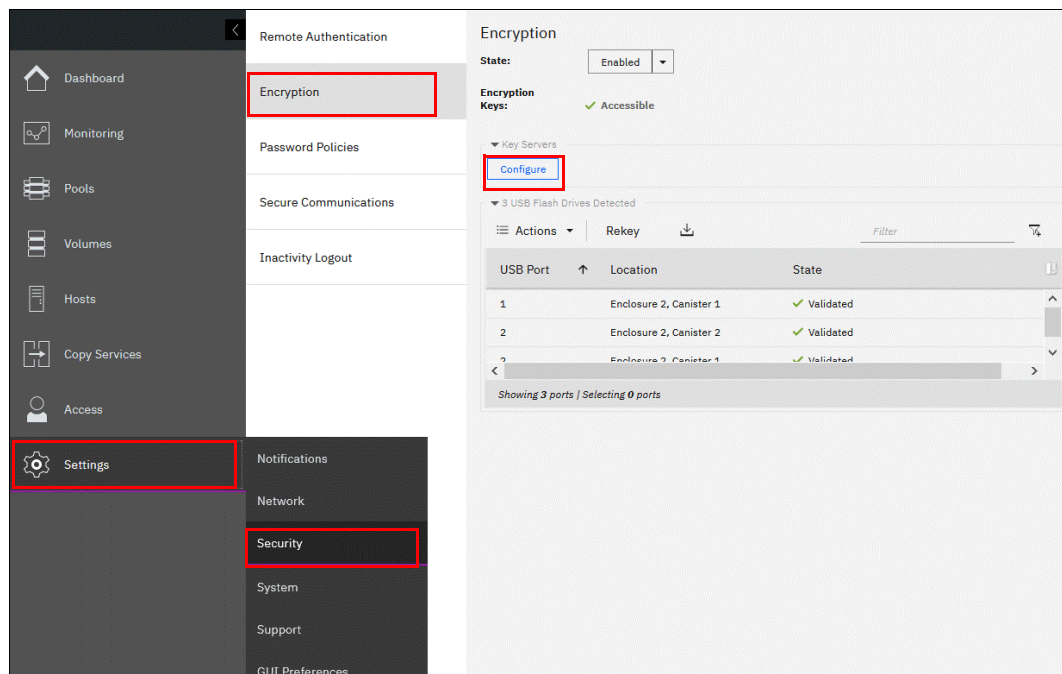

Figure 12-49 Enabling key servers as a second provider
1. Select **Settings** → **Security** → **Encryption**. Expand the **Key Servers** section and click **Configure**, as shown in Figure 12-49. To enable a key server as a second provider, the system must detect at least one USB flash drive with a current copy of the master access key.